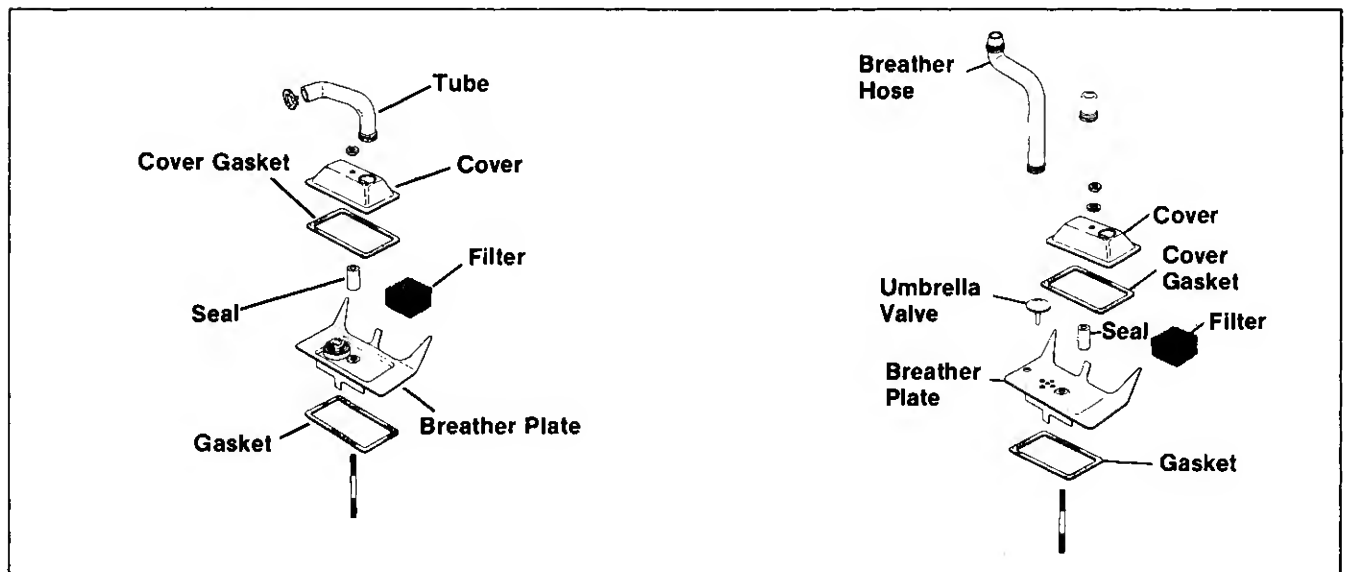

Figure 8-29. Exploded View Of Breather Components (Early Design On Left)
1. Assemble breather components on stud in valve chamber of the #1 cylinder barrel. Use the illustrations in Figure 8-29 to assemble breather components in the proper order.